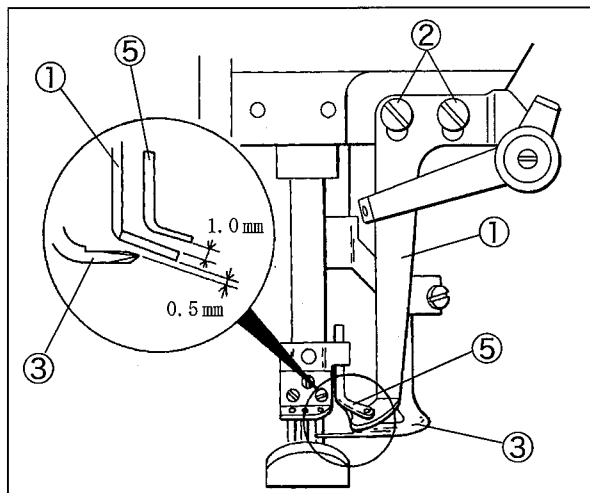

Fig. 46
- (1) Loosen the screws ② of the top cover thread guide ①. (Fig. 46)
- (2) Make a clearance between the top of the spreader ③ and the bottom of the top cover thread guide ① to 0.5 mm. (Fig. 46)
- (3) Set the hook ④ in the center of the slot of the top cover thread guide ① when the spreader ③ is at the extreme right. Then, tighten the screws ② securely. (Figs. 46 and 47)
- (2) Make a clearance between the top of the top cover thread guide ① and the top cover thread eyelet ⑤ to 1.0 mm when the needle bar is at the lowest point. (Fig. 46)